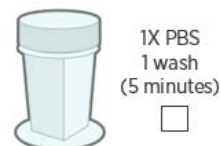

Figure 35: PBS Wash
7. Wash slides in staining jar with **1X PBS for 5 minutes** (Figure 35). During PBS wash, prepare staining jars for next step.